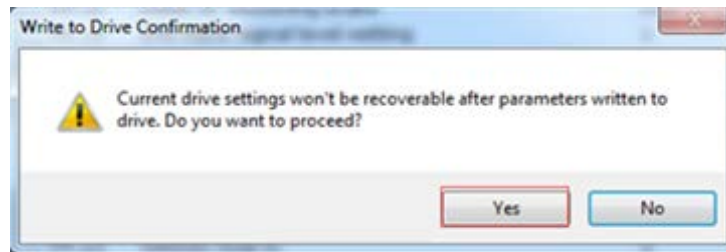

Figure 16: Write to drive confirmation message
- Click the “Write to Drive” icon on the left toolbar, or Configuration->Parameters menu item. A confirmation will be popped up (Figure 16)